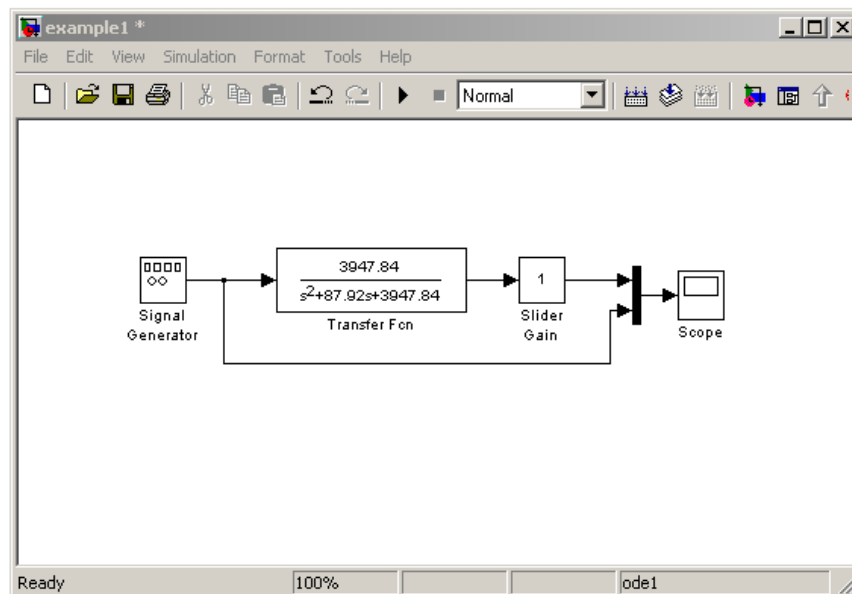

Figure 2.2: Simulink Model of 2nd Order System
- Next, drag a **Signal Generator** block from *Sources* library, a **Slider Gain** from *Math* library and a **Scope** from *Sinks* library. Connect all blocks as in Fig. 2.2.